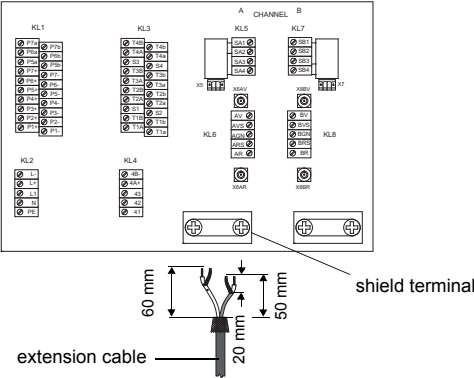

Fig. 6.1: Transducers - connection via junction box to the transmitter
- Push the extension cable through the shield terminal to terminal strip KL6 for measuring channel A and to terminal strip KL8 for measuring channel B (see Fig. 6.1).
- Pull the extension cable back until the brushed back external shield is below the shield terminal (see Fig. 6.1).
- Connect the leads to the terminals of the transmitter (see Fig. 6.1 and Table 6.1).